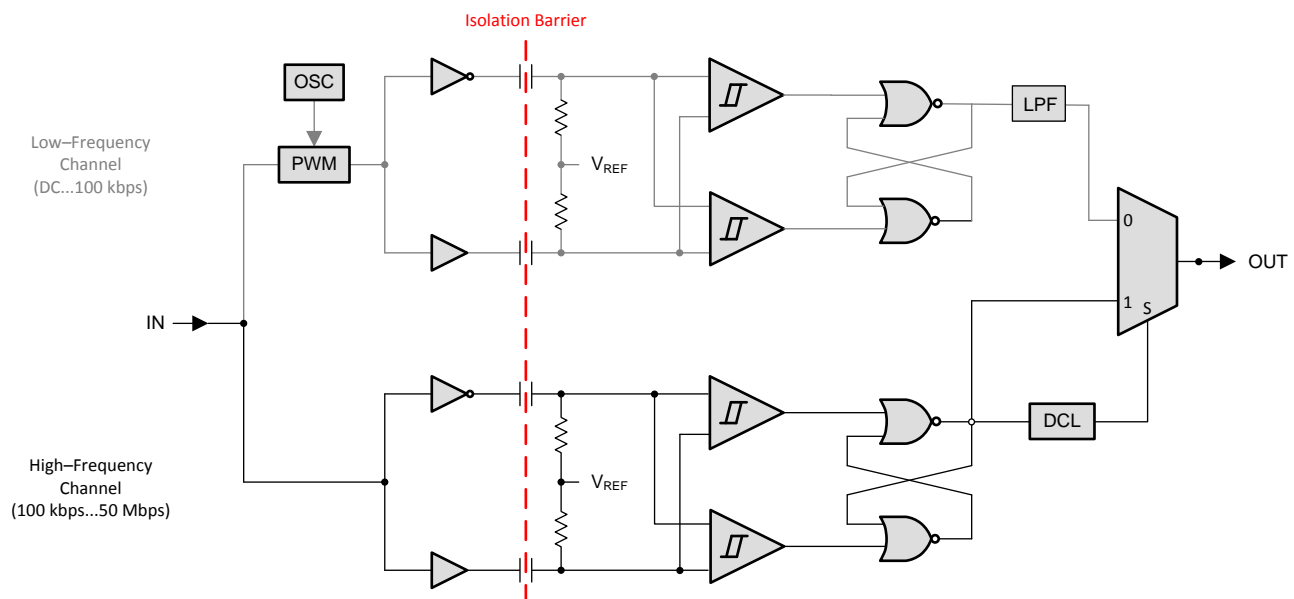

Figure 12. Conceptual Block Diagram of a Digital Capacitive Isolator
The isolator in Figure 12 is based on a capacitive isolation barrier technique. The I/O channel of the device consists of two internal data channels, a high-frequency channel (HF) with a bandwidth from 100 kbps up to 50 Mbps, and a low-frequency channel (LF) covering the range from 100 kbps down to DC. In principle, a single-ended input signal entering the HF-channel is split into a differential signal through the inverter gate at the input. The following capacitor-resistor networks differentiate the signal into transients, which then are converted into differential pulses by two comparators. The comparator outputs drive a NOR-gate flip-flop whose output feeds an output multiplexer. A decision logic (DCL) at the driving output of the flip-flop measures the durations between signal transients. If the duration between two consecutive transients exceeds a certain time limit, (as in the case of a low-frequency signal), the DCL forces the output-multiplexer to switch from the high- to the low-frequency channel.